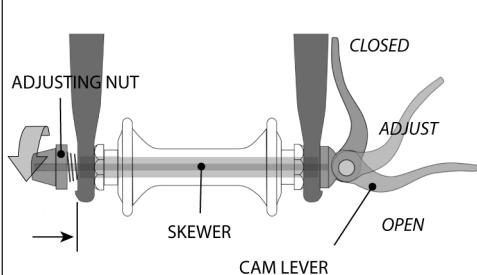
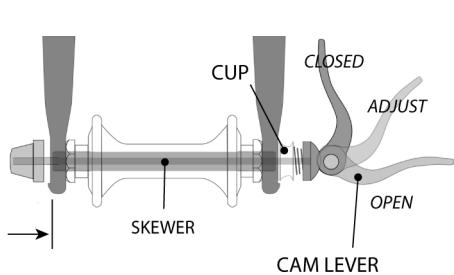
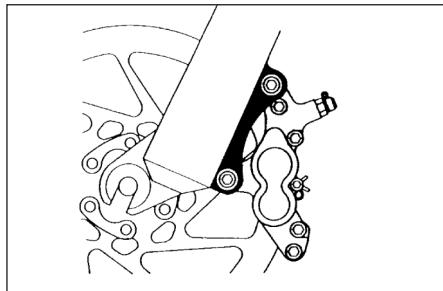
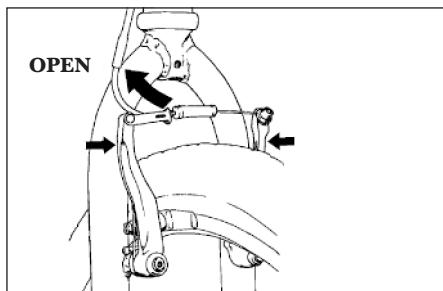

FIGURE 8a
FIGURE 8b
Figure 11.
Figure 12.
- A hollow axle with a shaft ("skewer") running through it which has an adjustable tension nut on one end and an over-center cam on the other (cam action system, fig.8a & 8b).
There are currently two types of over-center cam wheel retention mechanisms: the traditional over-center cam (fig. 8a) and the cam-and-cup system (fig. 8b). Both use an over-center cam action to clamp the bike's wheel in place. Your bicycle may have a cam-and-cup front wheel retention system and a traditional rear wheel cam action system.
a. Adjusting the traditional cam action mechanism (fig. 8a)
b. Adjusting the cam-and-cup mechanism (fig. 8b)
- (1) If your bike has rim brakes, disengage the brake's quick-release mechanism to increase the clearance between the tire and the brake pads (See Section 4.C fig. 11 through 15).
- (2) If your bike has cam action front wheel retention, move the cam lever from the locked or CLOSED position to the OPEN position (figs. 8a & b). If your bike has through bolt or bolt-on front wheel retention, loosen the fastener(s) a few turns counter-clockwise using an appropriate wrench, lock key or the integral lever.
- (3) If your front fork has a clip-on type secondary retention device, disengage it . If your front fork has an integral secondary retention device, and a traditional cam action system (fig. 8a) loosen the tension adjusting nut enough to allow removing the wheel from the dropouts. If your front wheel uses a cam-and-cup system, (fig. 8b) squeeze the cup and cam lever together while removing the wheel. No rotation of any part is necessary with the cam-and-cup system.
- (1) If your bike has cam action front wheel retention, move the cam lever so that it curves away from the wheel (fig. 8b). This is the OPEN position. If your bike has through bolt or bolt-on front wheel retention, go to the next step.
- (2) With the steering fork facing forward, insert the wheel between the fork blades so that the axle seats firmly at the top of the fork dropouts. The cam lever, if there is one, should be on rider's left side of the bicycle (fig. 8a & b). If your bike has a clip-on type secondary retention device, engage it.
- (3) If you have a traditional cam action mechanism: holding the cam lever in the ADJUST position with your right hand, tighten the tension adjusting nut with your left hand until it is finger tight against the fork dropout (fig. 8a). If you have a cam-and-cup system: the nut and cup (fig. 8b) will have snapped into the recessed area of the fork dropouts and no adjustment should be required.
- (4) While pushing the wheel firmly to the top of the slots in the fork dropouts, and at the same time centering the wheel rim in the fork:
- (a) With a cam action system, move the cam lever upwards and swing it into the CLOSED position (fig. 8a & b). The lever should now be parallel to the fork blade and curved toward the wheel. To apply enough clamping force, you should have to wrap your fingers around the fork blade for leverage, and the lever should leave a clear imprint in the palm of your hand.
- (2) If your bike has rim brakes, disengage the brake's quick-release mechanism to increase the clearance between the wheel rim and the brake pads (see Section 4.C, figs. 11 through 15).
- (3) On a derailleuer gear system, pull the derailleuer body back with your right hand.
- (4) With a cam action mechanism, move the quick-release lever to the OPEN position (fig. 8b). With a through bolt or bolt on mechanism, loosen the fastener(s) with an appropriate wrench, lock lever or integral lever; then push the wheel forward far enough to be able to remove the chain from the rear sprocket.
- (5) Lift the rear wheel off the ground a few inches and remove it from the rear dropouts.
Some bikes are equipped with a cam action seat post binder. The seat post cam action binder works exactly like the traditional wheel cam action fastener (Section 4.A.2) While a cam action binder looks like a long bolt with a lever on one end and a nut on the other, the binder uses an over-center cam action to firmly clamp the seat post (see fig. 8a).
3. Some bicycle brakes, such as disc brakes (fig. 11) and linear-pull brakes (fig. 12), are extremely powerful. Take extra care in becoming familiar with these brakes and exercise particular care when using them.
Most rim brakes have some form of quick-release mechanism to allow the brake pads to clear the tire when a wheel is removed or reinstalled. When the brake quick release is in the open position, the brakes are inoperative. Ask your dealer to make sure that you understand the way the brake quick release works on your bike (see figs. 12, 13, 14 & 15) and check each time to make sure both brakes work correctly before you get on the bike.